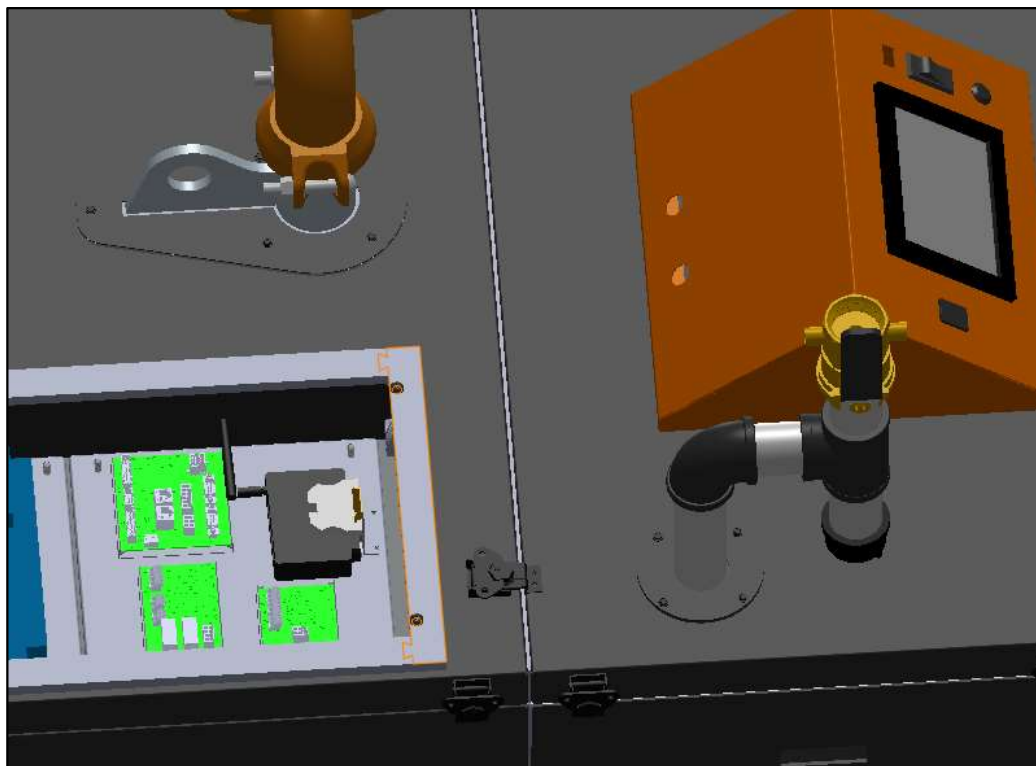

Figure 11-1: ProtoAir Mounting Location for AMP/BFIT 1500-4000, CTD 1500
- Use the DIN rail, mounting bracket, and end anchor block to mount the ProtoAir inside of the boiler next to PCB-06. See Figures 11-1 and 11-2 for boiler specific mounting location. Note – On AMP/BFIT 1000 & 1250 and CTD 1250 the ProtoAir should be mounted on the low voltage control panel located on the left side of the boiler. On Arctic/FreeFlex 1000 the ProtoAir should be mounted in the rear control box.